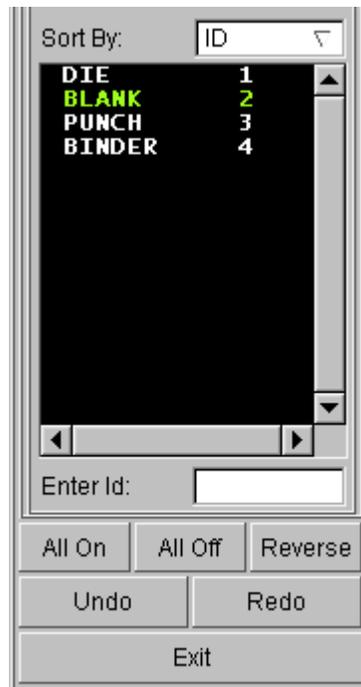

Figure 1.50 Turn parts on/off dialog box
4. In Part Operation dialog, use your mouse cursor to click on all the parts, excluding BLANK, as illustrated in Figure 1.50. All the tools are hidden from the display area. Then, click **Exit** button to dismiss the dialog box.